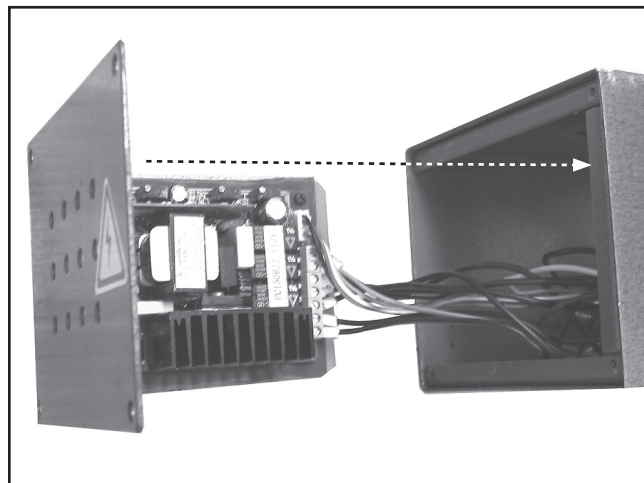

Figure 14. Circuit board installation.
21. Carefully slide the circuit board and vent cover back into the power feed housing (**Figure 14**), but do not install the four mounting screws at this time.